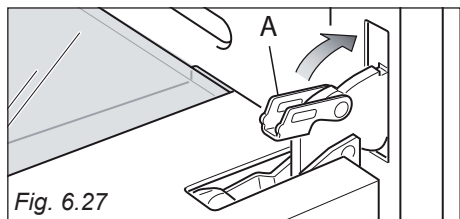

Fig. 6.27
3. Unlock the oven door by opening it completely and closing the lever "A" on the left and right hinges (fig. 6.27).